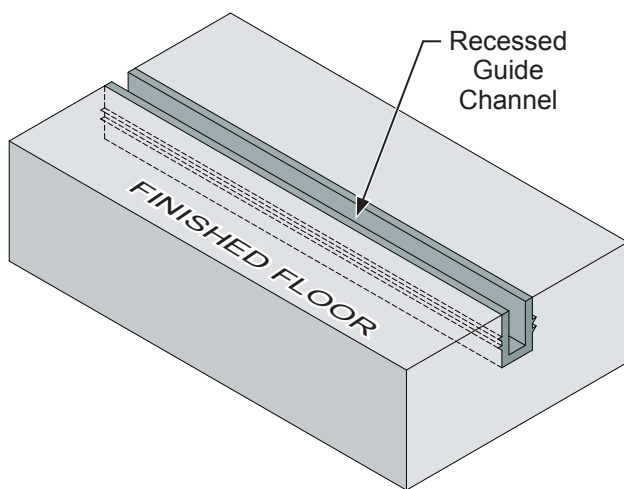

FIG. 4
1. The guide channel is set into the floor and is positioned directly under the center of the top track. **(Fig. 4)** When using multiple tracks space them at 2-3/8" (60 mm) between centers.